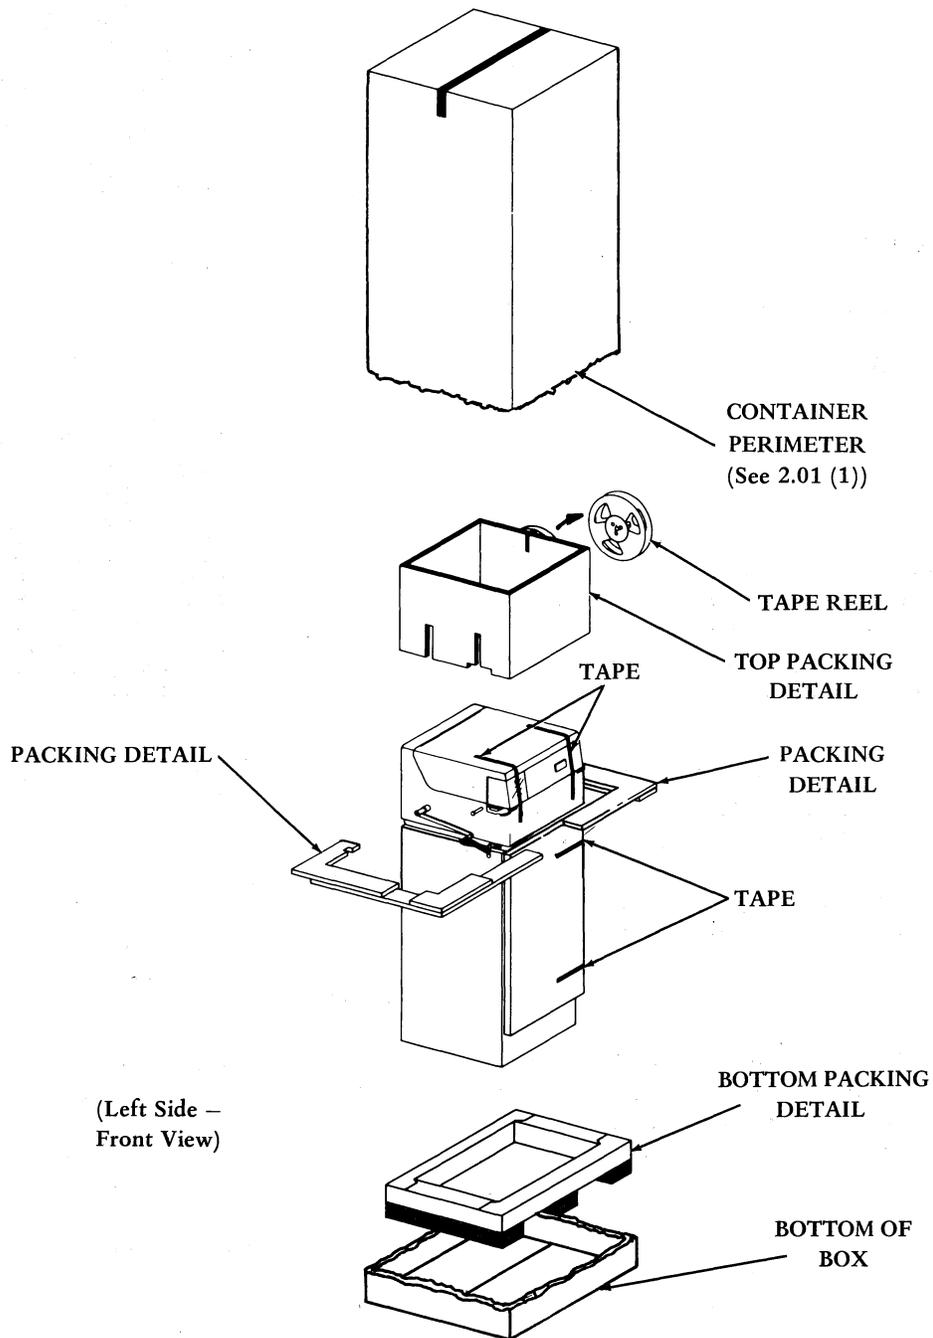

Figure 2 - Unpacking Procedure
2.01 The ROTR set is shipped factory assembled. Observe the following procedure when installing the set (Figure 2):